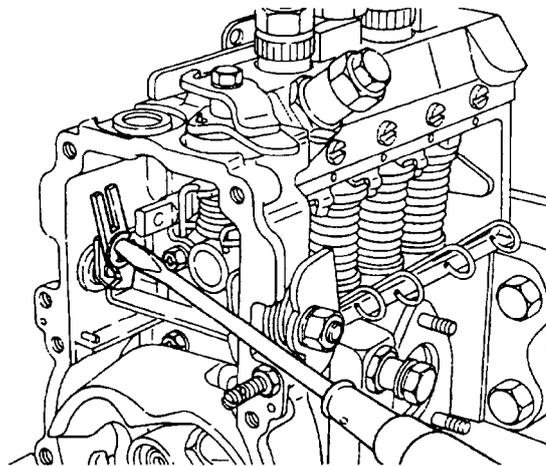

Figure 88 Removing the Sensor Lever
- k. Remove the snap-ring securing the sensor lever to the U-shaped lever and remove the sensor lever (Figure 88).